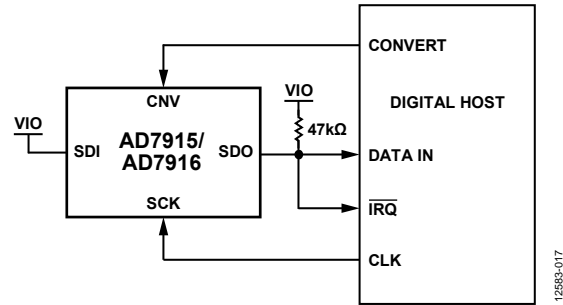
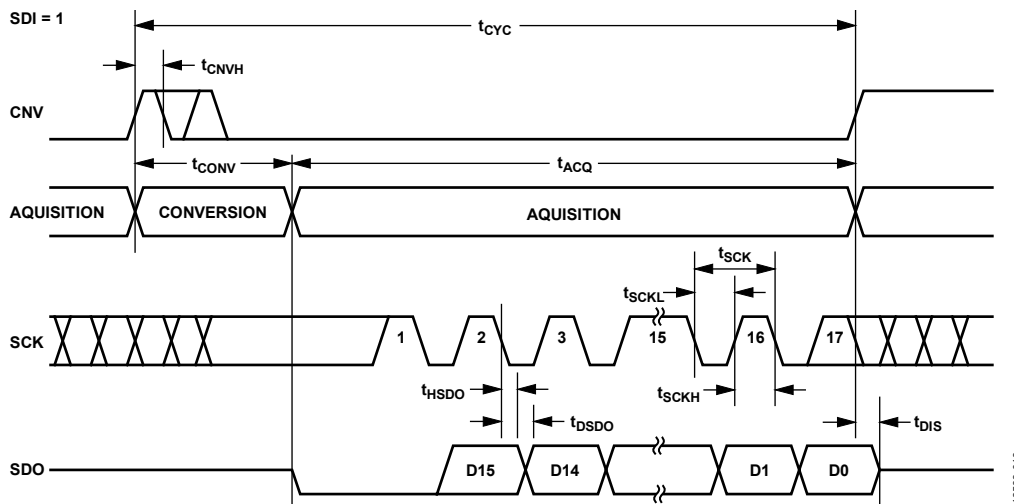
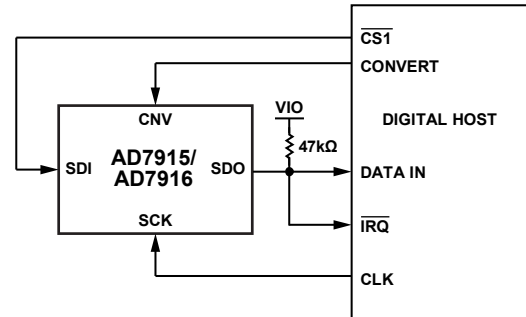
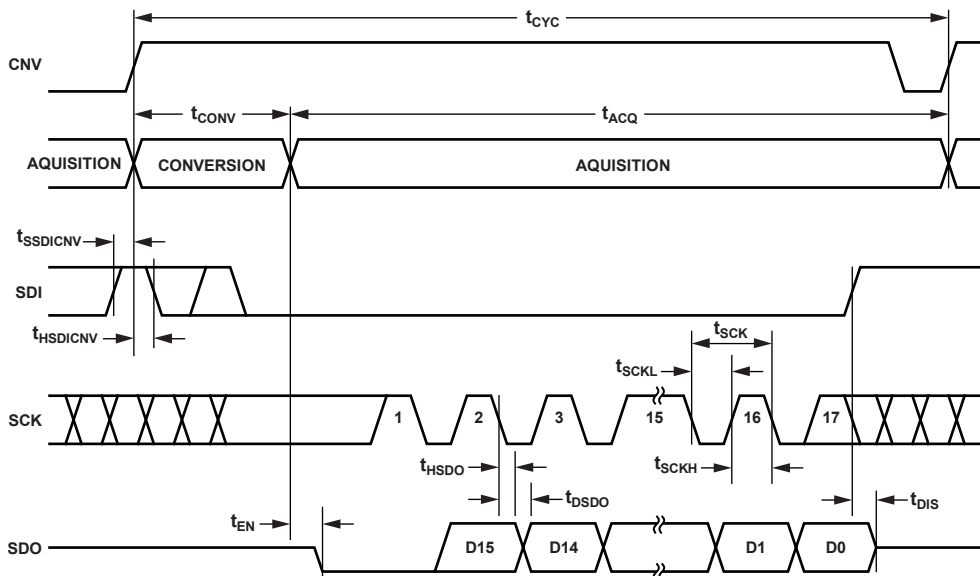

Figure 37. 3-Wire $\overline{\text{CS}}$ Mode with Busy Indicator Connection Diagram (SDI High)
Figure 38. 3-Wire $\overline{\text{CS}}$ Mode with Busy Indicator Serial Interface Timing (SDI High)
Figure 41. 4-Wire CS Mode with Busy Indicator Connection Diagram
Figure 42. 4-Wire CS Mode with Busy Indicator Serial Interface Timing
- in $\overline{\text{CS}}$ mode if CNV or SDI is low when the ADC conversion ends (see Figure 38 and Figure 42).
The connection diagram is shown in Figure 37, and the corresponding timing is given in Figure 38.
The connection diagram is shown in Figure 41, and the corresponding timing is given in Figure 42.